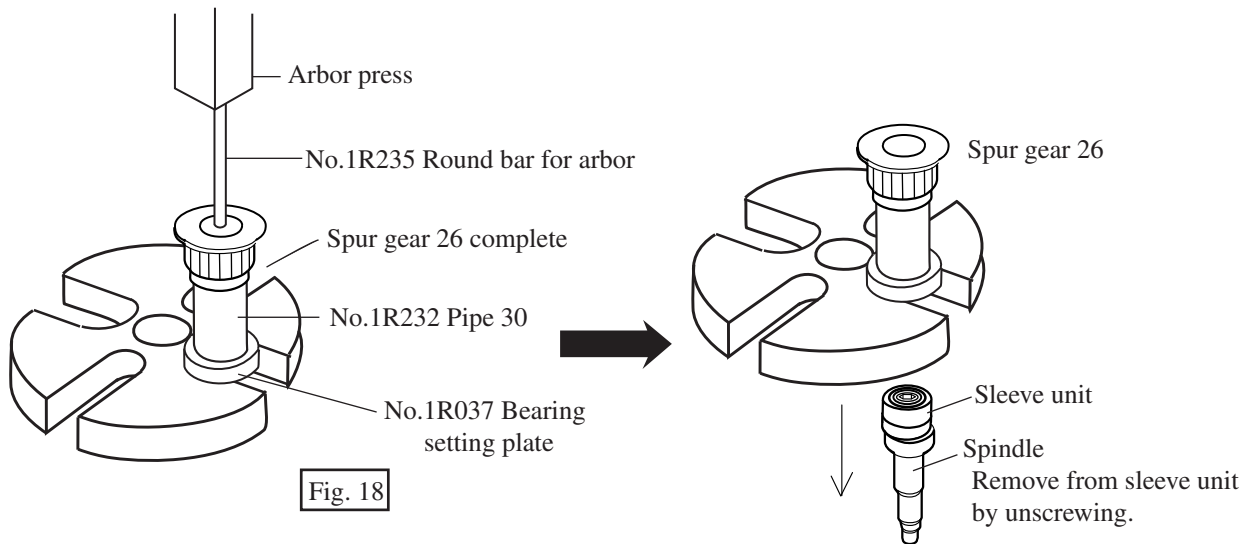

Fig. 18
- 2) Hold "spur gear 26 complete" with No.1R232 pipe 30 and No.1R037 bearing setting plate as illustrated in Fig. 18.
Remove spindle together with sleeve unit (including 2 ball bearings 6001DDW and retaining ring S-12) from spur gear 26, by pressing No.1R235 "round bar for arbor" with arbor press as illustrated in Fig. 18. And then, remove spindle from sleeve unit by unscrewing.